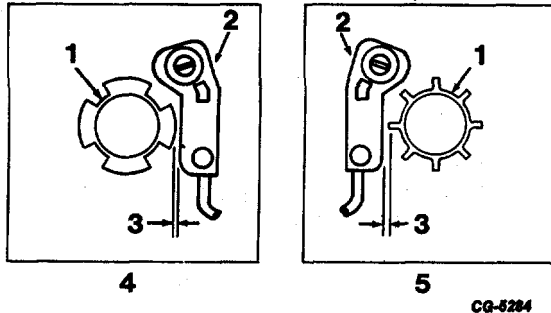

Fig. 43 Trigger Wheel-to-Sensor Air Gap
- a. Rotate trigger wheel until one tooth is aligned with center-line of sensor (trigger wheel tooth perpendicular to flat surface of sensor). (Figure 43)
end of tooth (Figure 43). Move sensor as needed to obtain specified air gap (see DISTRIBUTOR TEST SPECIFICATIONS).